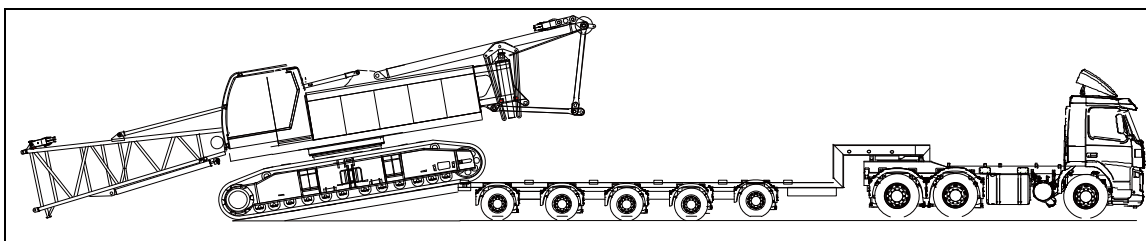

Figure 5-2 Unloading the basic machine
- b) Drive basic machine down off the low-loader (see the figure 5-2), or lift the basic machine away from the lower-loader with the help of an auxiliary crane, and then drive the low-loader away.